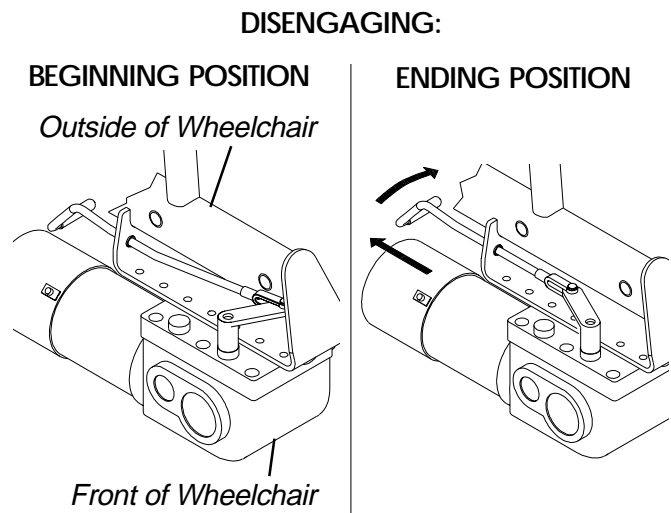

FIGURE 2 - DISENGAGING MOTORS WITH CLUTCHES
- B. **DISENGAGING (FIGURE 2) -**